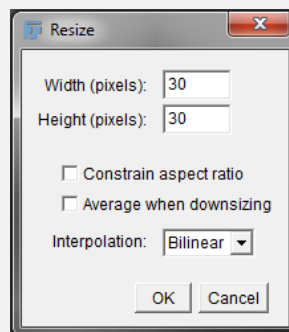

Figure 1.3: Adjust Size Dialog.
3. Go to [`Image > Adjust > Size`], you should see a dialog as shown in figure 1.3.